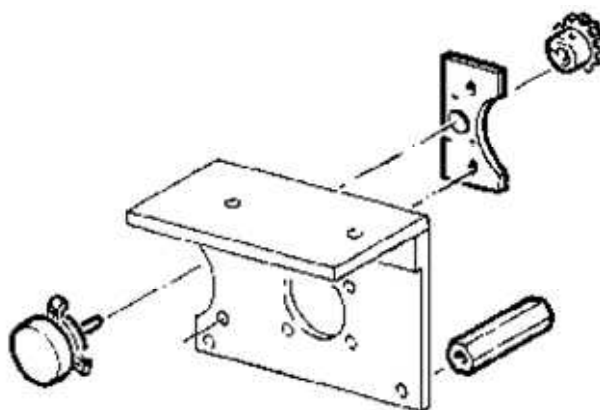

fig. 4.16
- Disconnect the motor electrically; remove the potentiometer unit (fig.4.16).